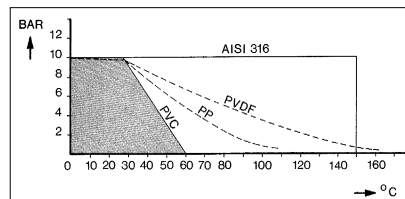

Fig. 2-2. Pressure/temperature class
- max. : depending on material and application (see fig. 2-2)
PRESSURE : see fig. 2-2